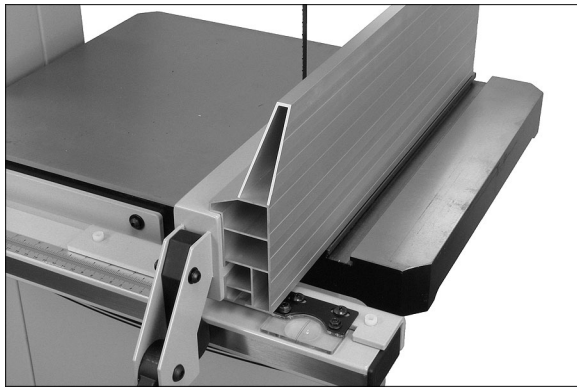

Figure 11
Refer to Figures 11 through 13.
1. Slide fence to edge of miter slot, as shown in Figure 11. The fence should align with miter slot along its entire length.